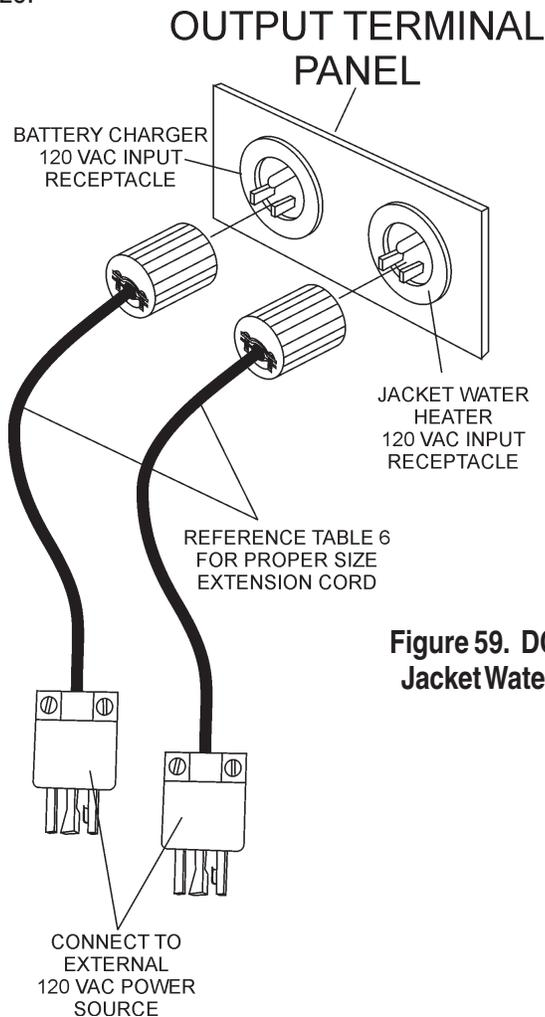

Figure 59. DCA-220SSJ Battery Charger & Jacket Water Heater Power Connections
These receptacles will **ONLY** function when commercial power has been supplied to them (Figure 59). To apply commercial power to these receptacles, a power cord of adequate size will be required (See Table 6).
12. **Lug Nuts** - Used to secure the wheel to the wheel hub. Always use a torque wrench to tighten down the lug nuts. See Table 16 and Figure 59 for lug nut tightening and sequence.
Figure 59 displays the major hydraulic surge brake components that will require inspection and maintenance. Please inspect these components as required using steps 1 through 8 and Table 15 as listed below: